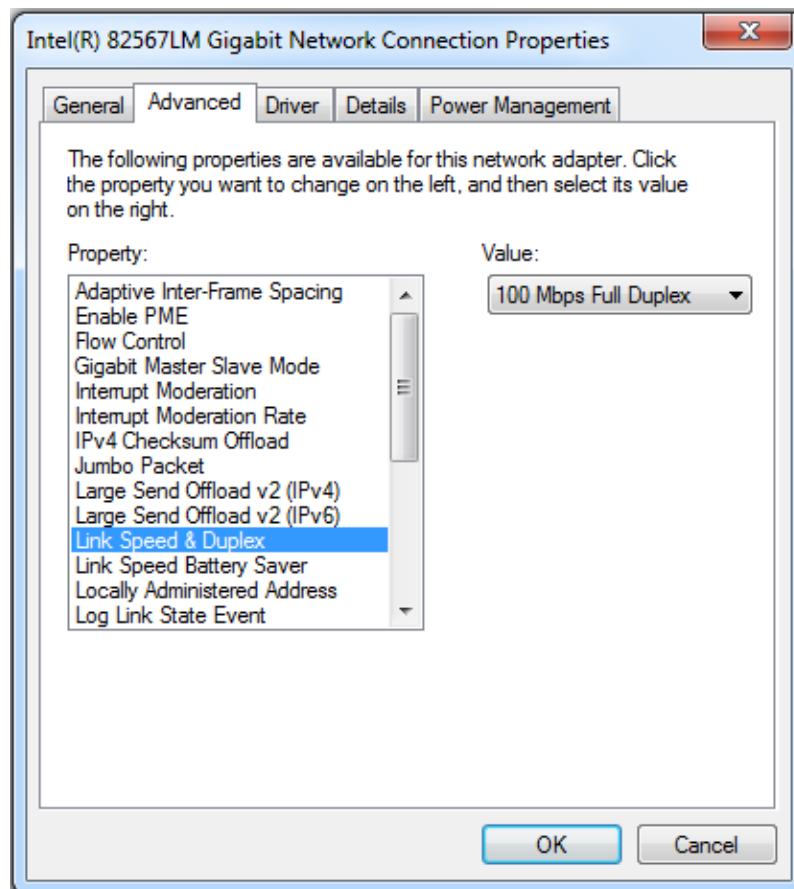

Figure 3-4 Link Speed & Duplex
3. Change **Link Speed & Duplex** to 100Mbps Full Duplex in **Advanced** of **Network Connection Properties** (see Figure 3-4)